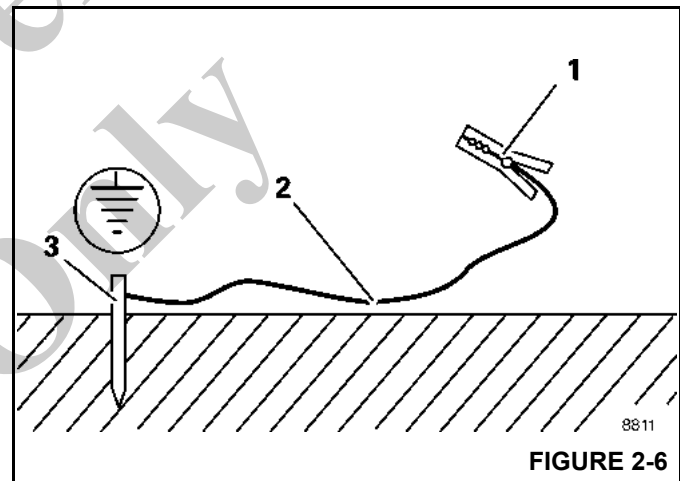

FIGURE 2-6
1. Hammer a metal rod (3, (Figure 2-6)) (length of approximately 2.0 m (6.6 ft)) at least 1.5 m (5 ft) into the ground.
2. Moisten the soil around the metal rod (3) for better conductivity.
3. Clamp an insulated cable (2) to the metal rod (3), cross-section of at least 16 mm² (0.025 inches²) (AWG 5).
4. Connect the free end of the cable with a clamp (1) to a good electrically conductive location on the frame.